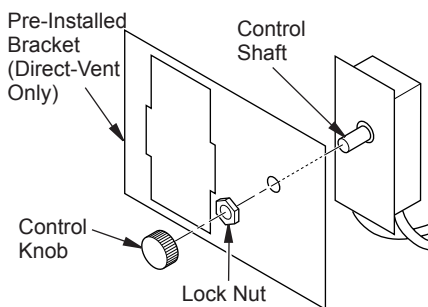

Figure 7 - Attaching Speed Control to Direct-Vent Firebox
- Mount the speed control box by placing the plastic control shaft forward through the mounting opening on the pre-installed bracket (see Figure 7).
- While supporting the speed control in the vertical position, secure the control shaft by pushing and turning the lock nut with pliers until it is tight against the mounting bracket. Place control knob provided on the control shaft (see Figure 7).